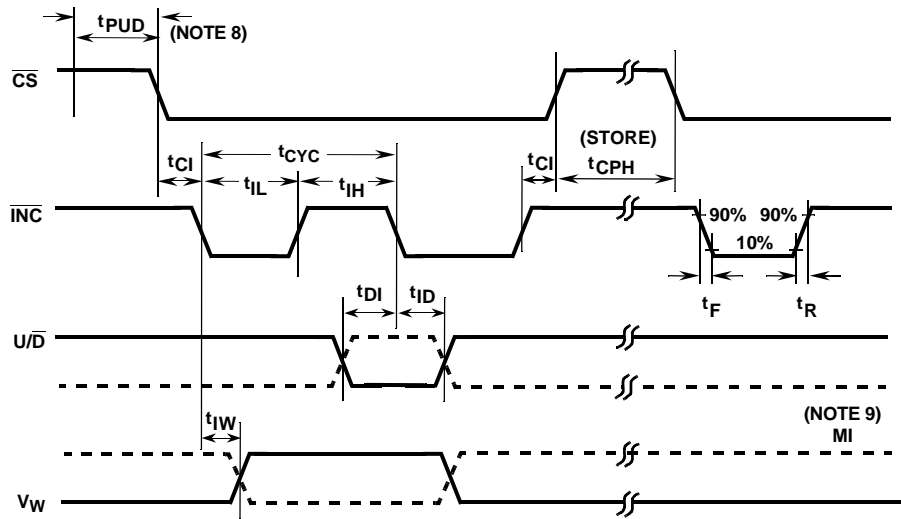

FIGURE 3. ISL45005, ISL45006 TIMING DIAGRAM
- 9. MI in the AC Timing diagram (Figure 3) refers to the minimum incremental change in the wiper output due to a change in the wiper position.